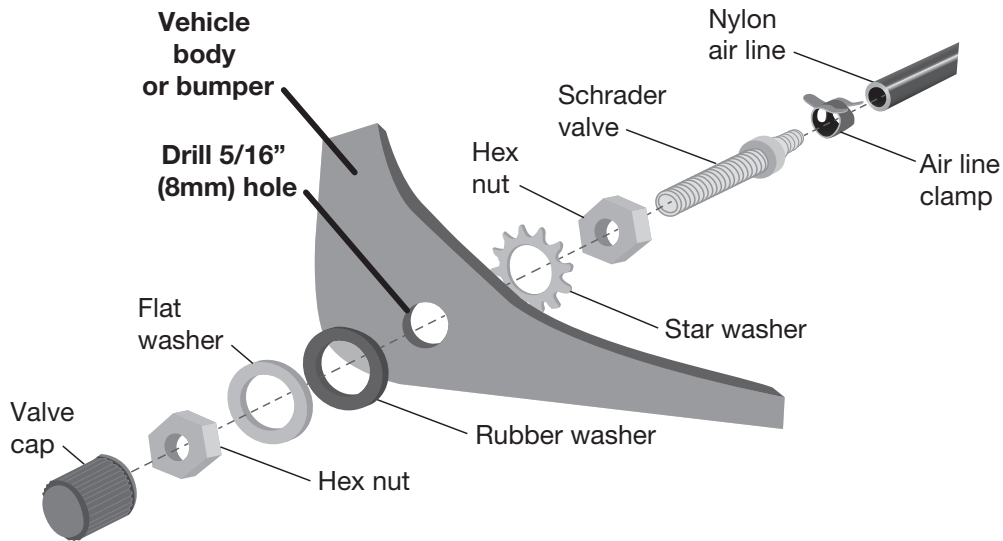

Fig. 17
5. Drill a 5/16" (8mm) hole for the Schrader valve and mount as shown (Fig. 17). Install the air line on the Schrader valve first. The rubber washer serves as an outside weather seal.